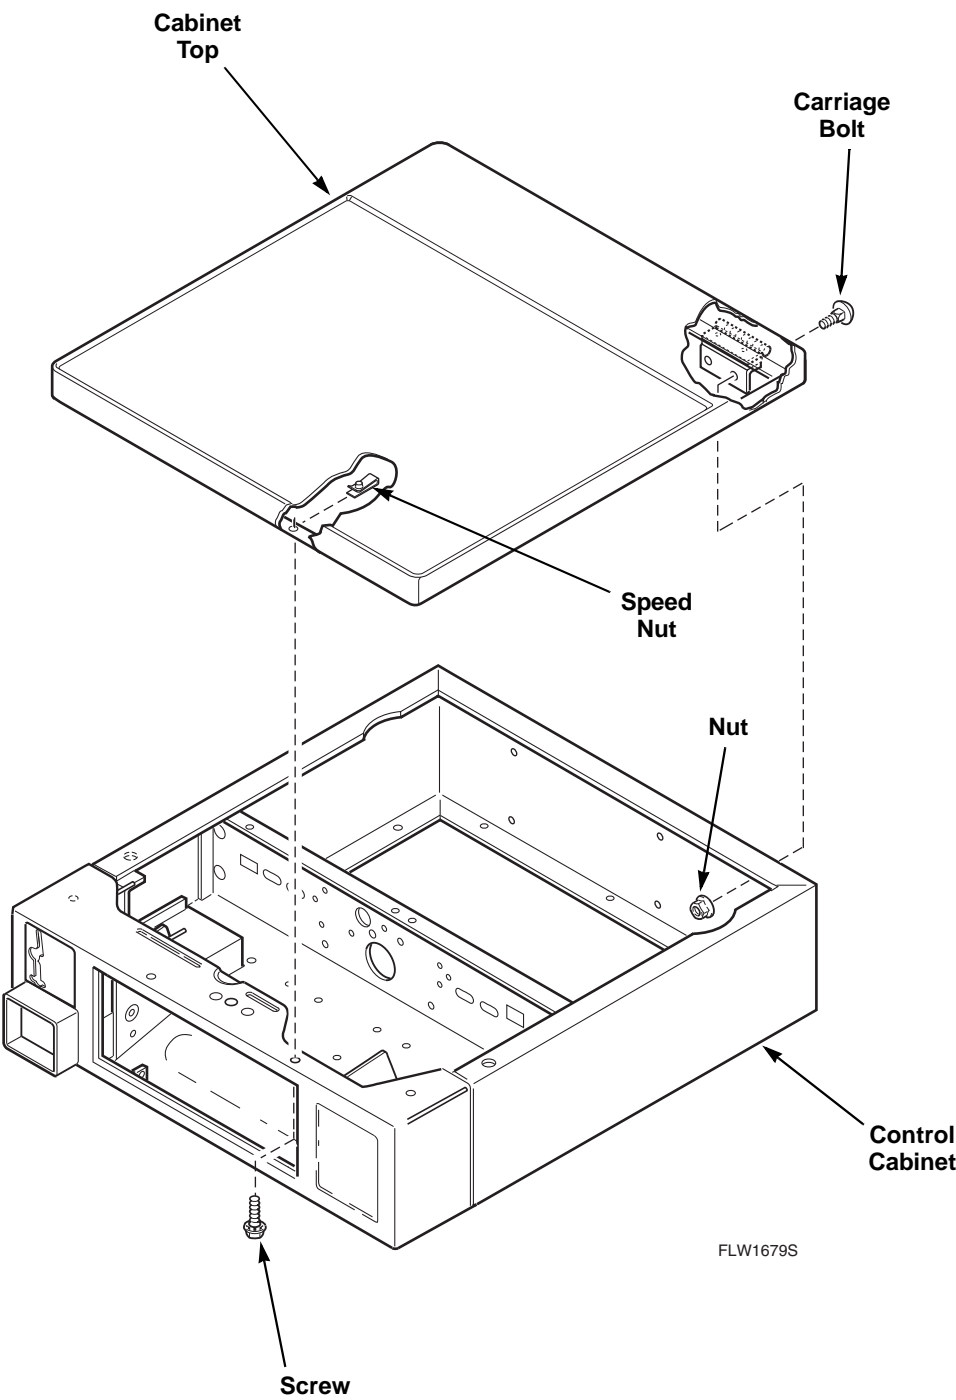

Figure 23
- Remove cabinet top from washer by removing nuts and carriage bolts holding cabinet top and hinges to control cabinet. Refer to *Figure 23*.